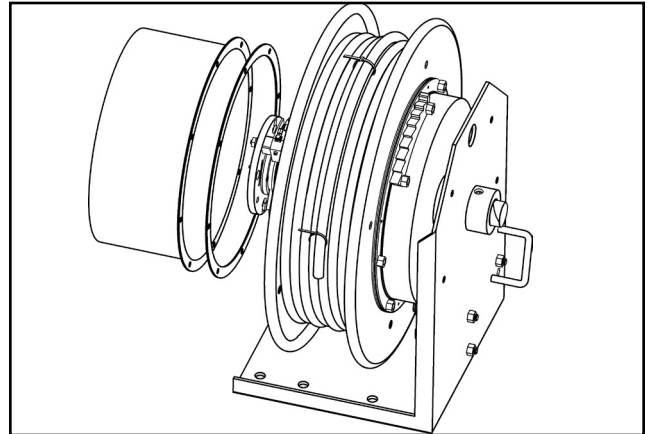

Figure 21-1
5. Remove the Slip Ring Cover, Gasket, and Slip Ring as per Slip Ring Replacement Section. See **Figure 21-1**.